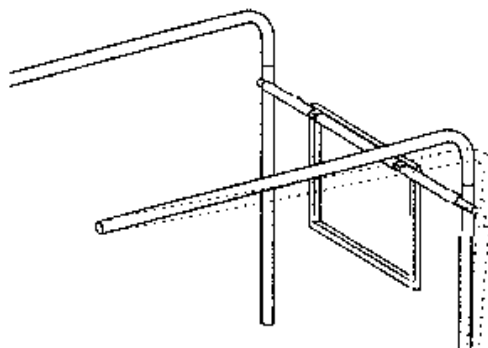

Figure 8. Arch Spacer Installation.
11. Install arch spacers, as shown in Figure 8, between the center arch and its two adjacent arches. Slide an arch away then back to push the stub inside the spacer.
10. Starting at the corner nearest the mechanical room, install two arch spacers, as shown in Figure 8, between the first two sets of adjacent arches. Slide an arch away then back to push stub inside spacer.